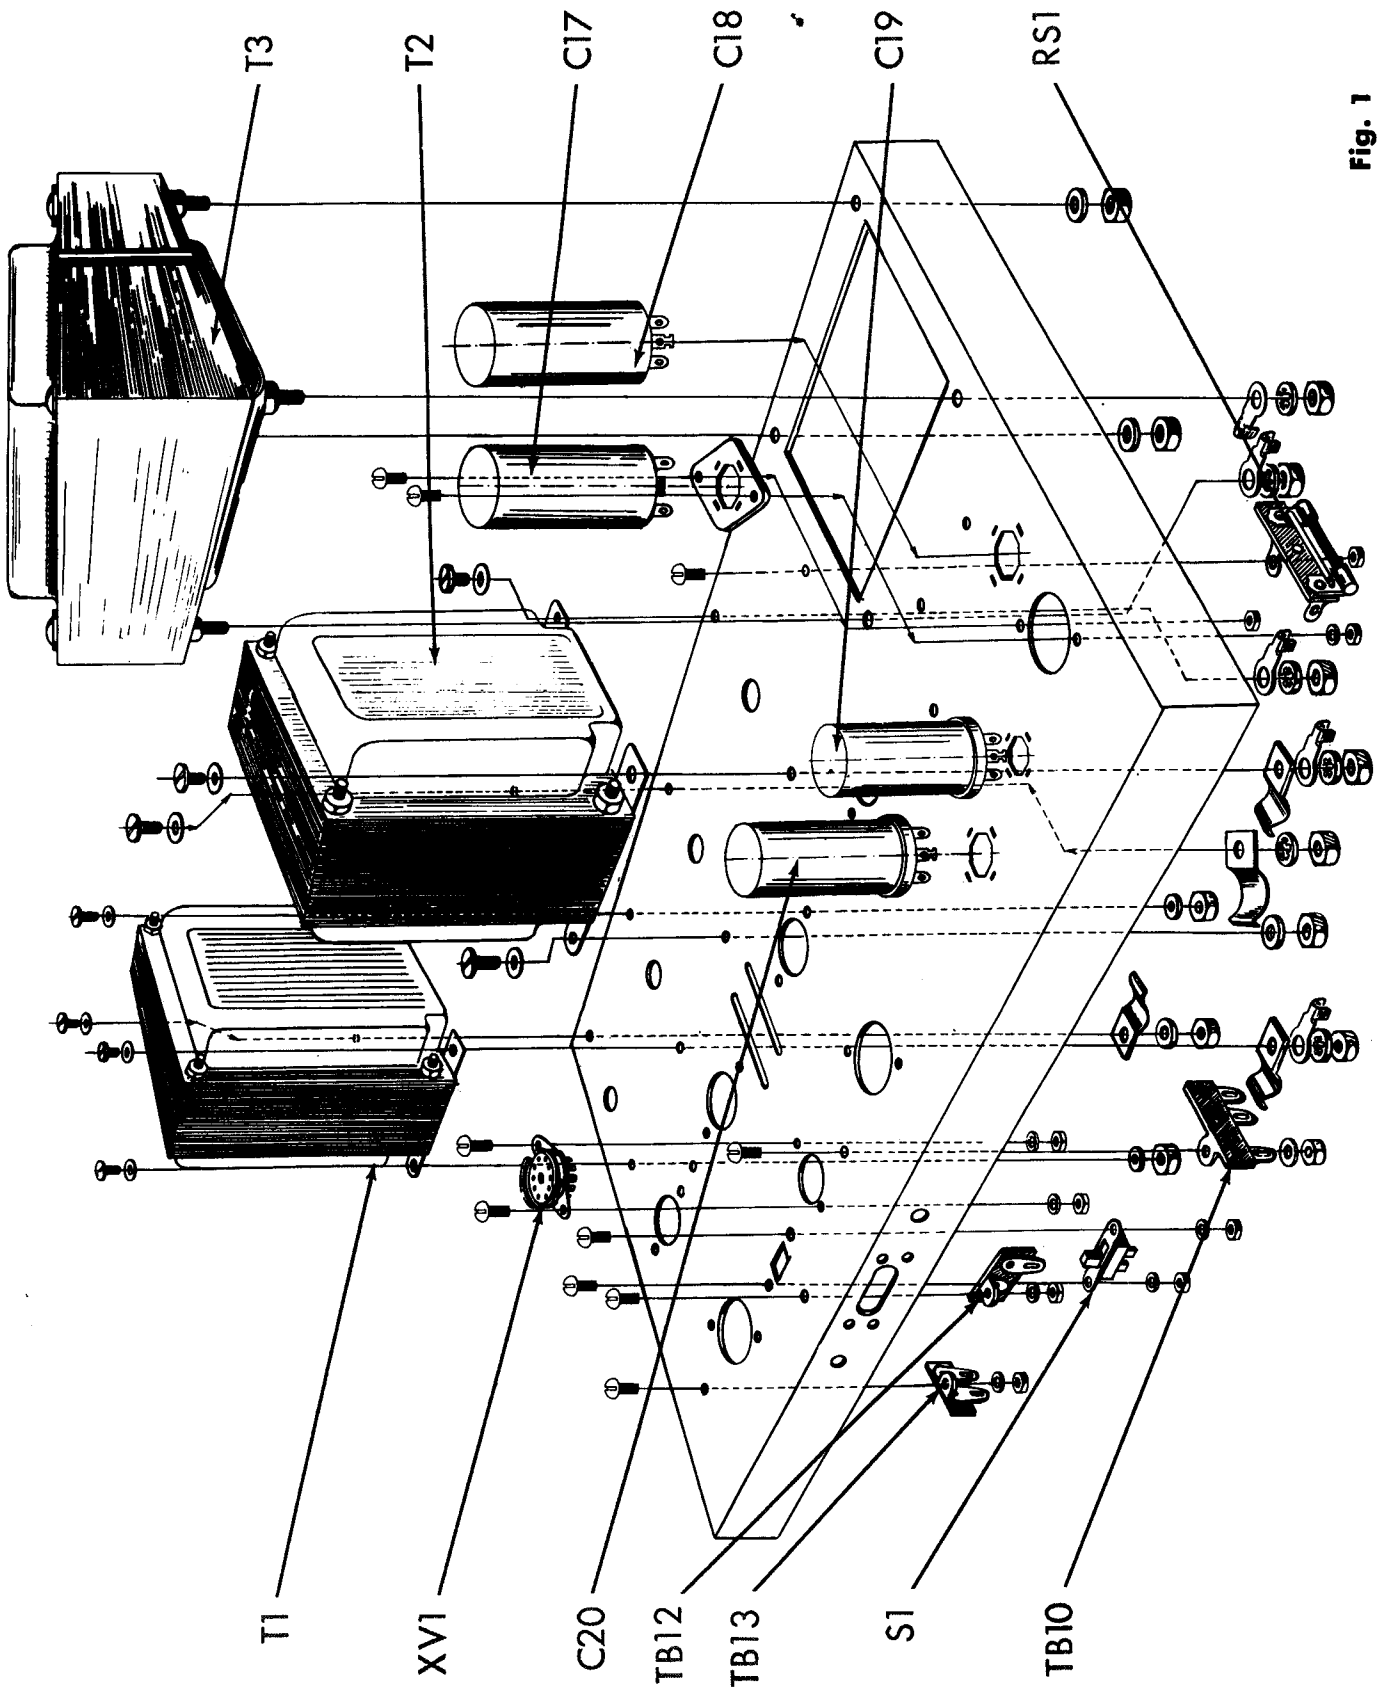
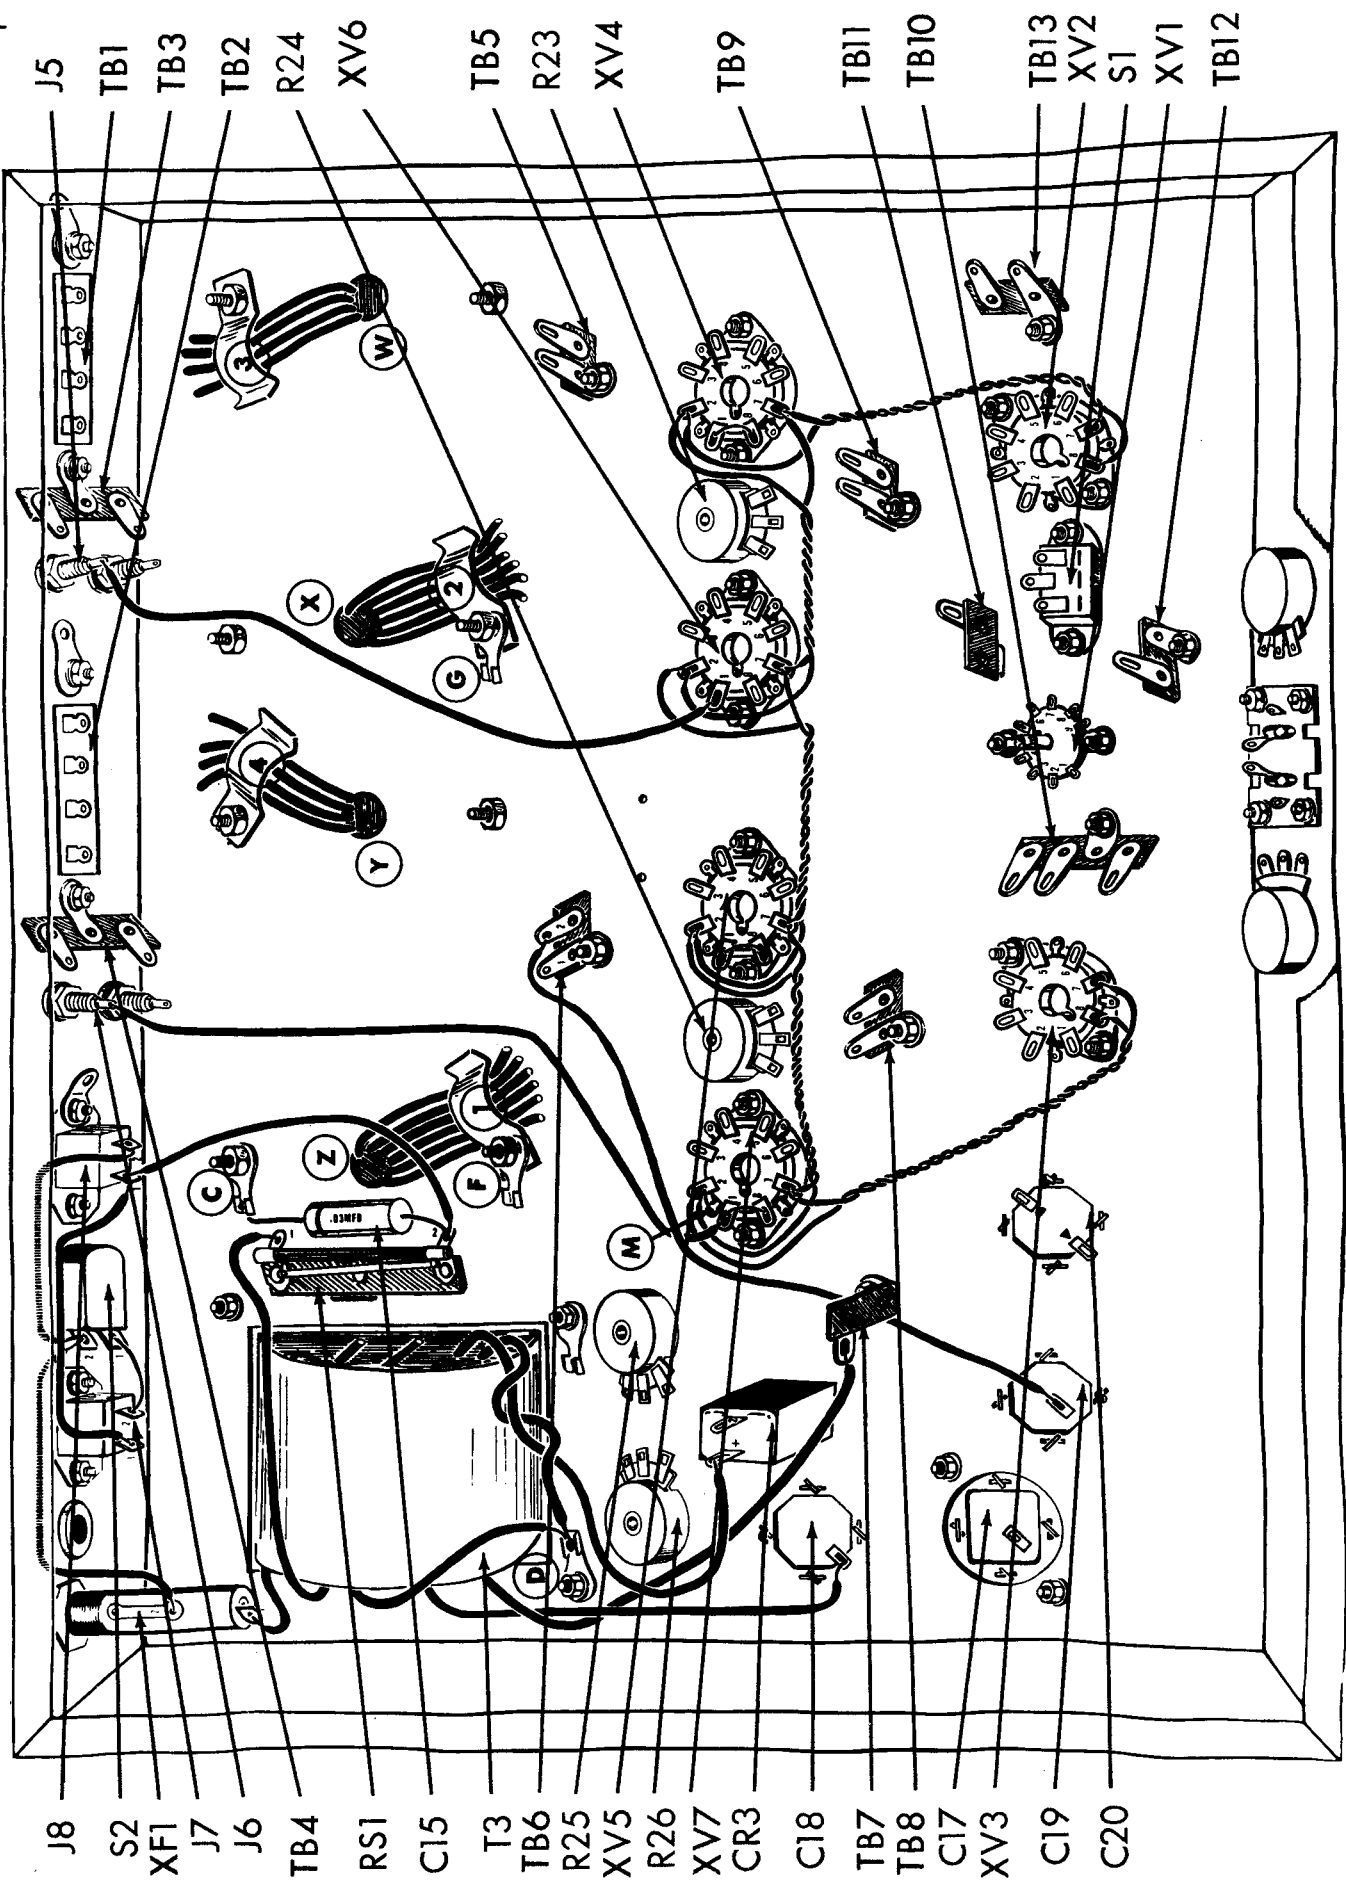

Fig. 1
Fig. 3
with ground terminal strip, TB13, as shown. Orient these terminal strips as shown in figure 3. Use one #6-32 screw, one #6 lockwasher and one #6 hex nut to secure each terminal strip to the chassis.
- () 1. Fig. 1. On power transformer T3, cut both green leads to 6", one red lead to 6", the other red lead to 7", the white lead to 3", one black lead to 2", the other black lead to 4", one blue lead to 4" and the second blue lead to 6 1/2". On each of these leads strip the insulation back 1/4". Mount the transformer as shown with the green leads toward the center of the chassis and the black leads close to the side of the chassis. Use four #8 lockwashers and four #8-32 hex nuts to secure the transformer to the chassis. Under each of two of the lockwashers, mount a #8 ground lug, as shown in Figure 3.
- () 2. Fig. 1. On both output transformers T1 and T2, cut the black lead to 4", the white lead to 4 1/2", the green lead to 5" and the yellow lead to 5 1/2". Cut the blue and blue-yel. leads to 4 1/2" and the brown and brown-yel. to 5 1/2" and the red and red-yellow leads to 6". Strip the insulation back 1/4" from the ends of each of the leads. Mount transformer T2 with black, brown, green, and yellow leads going through hole "Y" and all the remaining leads going through hole "Z". Secure the transformer to the chassis using four #10-32 screws and four #10 flat washers from above the chassis and four #10 lockwashers and four #10-32 hex nuts from below the chassis. Noting the orientation in figure 3, under one of the lockwashers used in the mounting of T2, place cable clamp #1 and the #10 ground lug "F". Run the leads from hole "Z" under this cable clamp #1. Under a second lockwasher used in the mounting of T2, place cable clamp #4. Run the leads from hole "Y" under this cable clamp #4. Mount ground lug "C" under one of the remaining lockwashers used for the mounting of T2 as indicated in the figure.
Mount transformer T1 with the black, white, green and yellow leads going through hole "W" and the remaining leads going through hole "X". Secure the transformer to the chassis using four #10-32 screws and four #10 flat washers from above the chassis and four #10 lockwashers and four #10-32 hex nuts from below the chassis. Noting the orientation in figure 3, under one of the lockwashers used in the mounting of T1, place cable clamp #2 and the #10 ground lug "G". Run the leads from hole "X" under this cable clamp #2. Under a second lockwasher used in the mounting of T3, place cable clamp #3. Run the leads from hole "W" under this cable clamp #3.
- () 3. Fig. 1. Mount the single pole double throw slide switch S1, from below the chassis, as shown. See figure #3 for orientation. Use two #6-32 screws, two #6 lockwashers and two #6-32 hex nuts.
- () 4. Fig. 1. From below the chassis, mount the 3 post 2 right terminal strip, TB10; the one post left terminal strip, TB12; and the one post left
- () 5. Fig. 1. Mount the 9 pin miniature socket with shield support XV1, from above the chassis, as shown. Use two #4-40 screws, two #4 lockwashers and two #4-40 hex nuts. Note the orientation of this socket in figure #3.
- () 6. Fig. 1. Mount the bakelite capacitor mounting plate for C17 from above the chassis, as shown. Use two #6-32 screws, two #6 lockwashers and two #6-32 hex nuts.
- () 7. Fig. 1. Into the slots in the bakelite capacitor mounting plate (mounted in step #6) insert the tabs from the 300ufd, 300V electrolytic can capacitor, C17. Note the orientation of this capacitor in figure #3. Twist the tabs somewhat less than a quarter turn. Do not twist the tabs excessively or they will shear off. Take precautions so that the tabs used to secure the capacitor to the bakelite will not short against the surrounding metal chassis.
- () 8. Fig. 1. Mount the 300mf 300 volt electrolytic capacitor C18, as shown. Note the orientation in Figure #3. Insert the capacitor mounting tabs into the slots in the chassis and twist the tabs a little less than a quarter turn. Do not twist the tabs excessively or they will shear off. Solder the capacitor tab without a hole to the chassis at the slot in the chassis.
- () 9. Fig. 1. Mount the 80mf 500 volt electrolytic capacitor C19, as shown. Note the orientation in figure #3. Insert the capacitor mounting tabs into the slots in the chassis and twist the tabs a little less than a quarter turn. Do not twist the tabs excessively or they will shear off. Solder the capacitor tab without a hole, to the chassis at the slot in the chassis.
- () 10. Fig. 1. Mount the 40-20mfd/500 volt electrolytic capacitor C20, as shown. Note the orientation of the capacitor (half-moon and triangle) in figure #3. Insert the capacitor mounting tabs into the slots in the chassis and twist the tabs a little less than a quarter turn. Do not twist the tabs excessively or they will shear off. Solder the capacitor tabs without a hole to the chassis at the slot in the chassis.
- () 11. Fig. 1. Mount the surgistor RS-1, as shown. Use one #6-32 screw, one #6 lockwasher and one #6 hex nut to secure this component to the chassis. Note the orientation in figure #3.
- () 1. Fig. 3. Connect an 8 1/2" piece of red wire from C19 (C) to TB6-2 (C). Run this lead along the chassis as shown.
- () 2. Fig. 3. From power transformer, T3, connect the white lead to ground lug "D" (C), the short black lead to XF1-1 (C) and the longer black lead to RS1-1 (C). Twist the two red leads together as shown. Connect one red lead to C18 (C) and the second red lead to TB7 (C). Twist the two blue leads together. Connect one blue lead to ground lug "D" (S2) and the second blue lead to CR3-1 (S1). Do not use excessive heat when soldering to CR3.
- () 3. Fig. 3. Connect a 4 1/2" piece of grey wire from XF1-2 (S1) to S2-2 (C).
- () 4. Fig. 3. Connect a 4" piece of gray wire from S2-2 (S2) to J8-2 (S1).
- () 5. Fig. 3. Connect a 1 1/4" piece of bare wire from J7-2 (C) to S2-1 (S1).
- () 6. Fig. 3. Connect a 5" piece of gray wire from J7-1 (C) to J8-1 (C).
- () 7. Fig. 3. Connect a 4" piece of grey wire from J8-1 (S2) to RS1-2 (C).
- () 8. Fig. 3. Cut both leads on a .03mfd (orange, black, orange, black, blue) molded capacitor C15 to 1". Connect one lead to RS1-2 (S2) and the second lead to ground lug "C" (S1).
- () 9. Fig. 3. Connect one end of a six inch piece of yellow wire to XV4-2 (C) and one end of a 5" piece of brown wire to XV4-7 (C). Twist the two leads together and run them along the chassis as shown. Connect the other end of the yellow wire to XV2-7 (S1) and the other end of the brown wire to XV2-8 (S1).
- () 10. Fig. 3. Connect one end of a 7" piece of yellow wire to XV4-2 (S2) and one end of a 4" piece of brown wire to XV4-7 (S2). Twist the two leads together and run them along the chassis as shown. Connect the remaining end of the yellow wire to XV6-2 (C) and the other end of the brown wire to XV6-7 (C).
- () 11. Fig. 3. Connect one side of a 7" piece of yellow wire to XV6-2 (S2) and one side of a 4" piece of brown wire to XV6-7 (S2). Twist the leads together and run them along the chassis as shown. Connect the other end of the yellow wire to XV5-2 (C) and the other end of the brown wire to XV5-7 (C).
- () 12. Fig. 3. Connect one end of a 7" piece of yellow wire to XV5-2 (S2) and one end of a 4" piece of brown wire to XV5-7 (S2). Twist the two leads together and run them along the chassis as shown. Connect the other end of the yellow wire to XV7-2 (C) and the other end of the brown wire to XV7-7 (C).
- () 13. Fig. 3. Connect one end of an 8" piece of yellow wire to XV7-2 (C) and one end of a 7" piece of brown wire to XV7-7 (C). Twist the two leads together and run them along the chassis as shown. Connect the other end of the brown wire to XV3-8 (S1) and the other end of the yellow wire to XV3-7 (S1).
- () 14. Fig. 3. Connect a 3/4" piece of bare wire from XV7-2 (C) to ground lug "M" (S1) at XV7.
- () 15. Fig. 3. Connect a 3/4" piece of bare wire from XV7-1 (C) to XV7-8 (S1).
- () 16. Fig. 3. Connect a 3/4" piece of bare wire from XV5-1 (C) to XV5-8 (S1).
- () 17. Fig. 3. Connect a 3/4" piece of bare wire from XV6-1 (C) to XV6-8 (S1).